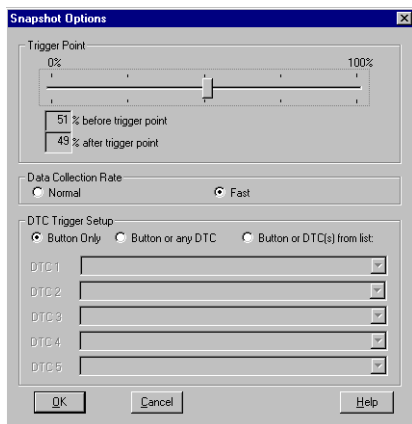

Figure 2.13: Snapshot Options Dialog Box
- 7 Verify the connections and then click the **OK** button to continue. This displays the Snapshot Options dialog box (Figure 2.13).
- 8 In the Snapshot Options dialog box (Figure 2.13), set the following variables:
- Depending on the DTC Trigger Setup setting made (see Figure 2.13 on page 19), the VDR tool may automatically trigger a recording. For details, refer to page 19.
- The VDR tool holds up to four (4) recorded snapshots. Each additional snapshot (after four) replaces the oldest snapshot made. This means that you can record as many snapshots as necessary, but the VDR tool saves only the four most recent ones.